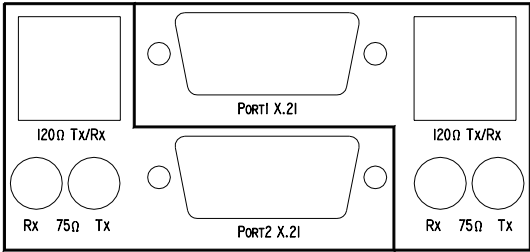

Figure 2 - Rear Panel Connectors (two ports only)
A 15 Way 'D' type socket connector (see figure 2) is fitted for each converter with the following pin connections:-
- Connection to the G.703 interface is via either a pair of SMB sockets for send and receive or by an RJ45 socket for each converter on the rear of the unit (see figure 2).